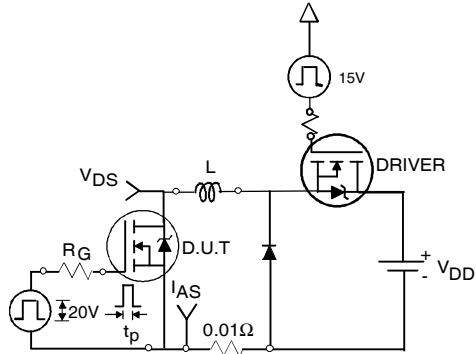

Fig 12a. Unclamped Inductive Test Circuit
- ③ $I_{SD} \leq 125A$, $di/dt \leq 260A/\mu s$, $V_{DD} \leq V_{(BR)DSS}$, $T_J \leq 175^\circ\text{C}$
- ④ Pulse width $\leq 400\mu s$; duty cycle $\leq 2\%$.
- ⑤ $C_{oss\text{ eff.}}$ is a fixed capacitance that gives the same charging time as C_{oss} while V_{DS} is rising from 0 to 80% V_{DSS} .
- ⑥ Calculated continuous current based on maximum allowable junction temperature. Package limitation current is 90A.
- ⑦ Limited by T_{Jmax} , see Fig.12a, 12b, 15, 16 for typical repetitive avalanche performance.
3. Equation below based on circuit and waveforms shown in Figures 12a, 12b.